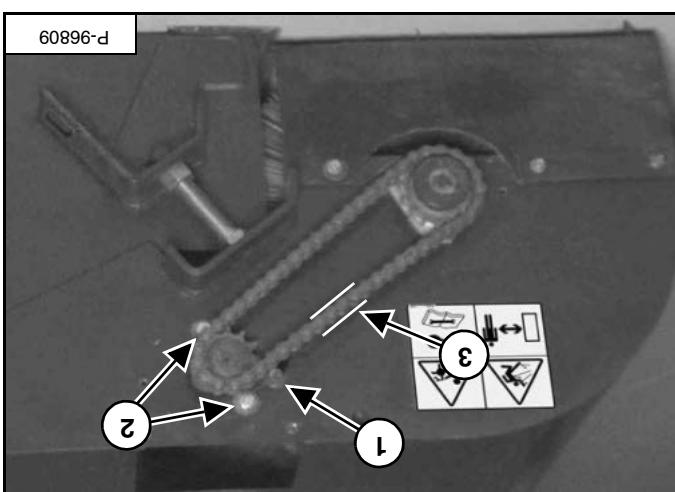

Figure 108
Tighten motor bolts (item 2) and adjustment bolt (item 1) [Figure 108].
Loosen the motor bolts (item 2) and the adjustment bolt (item 1) [Figure 108].